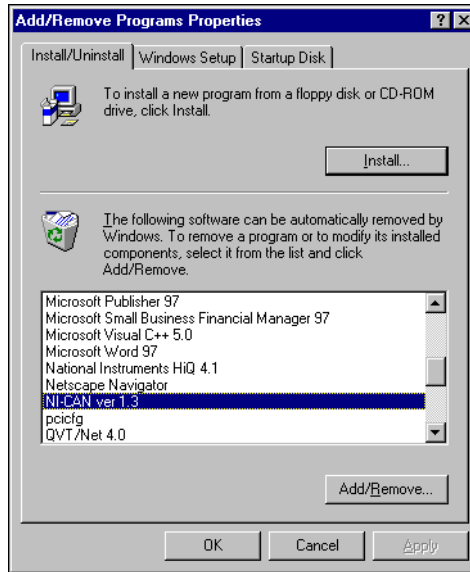

Figure A-2. Add/Remove Programs Properties Dialog Box
1. Select the **Add/Remove Programs** icon under **Start>Settings>Control Panel**. A dialog box similar to the one in Figure A-2 appears. This dialog box lists the software available for removal.